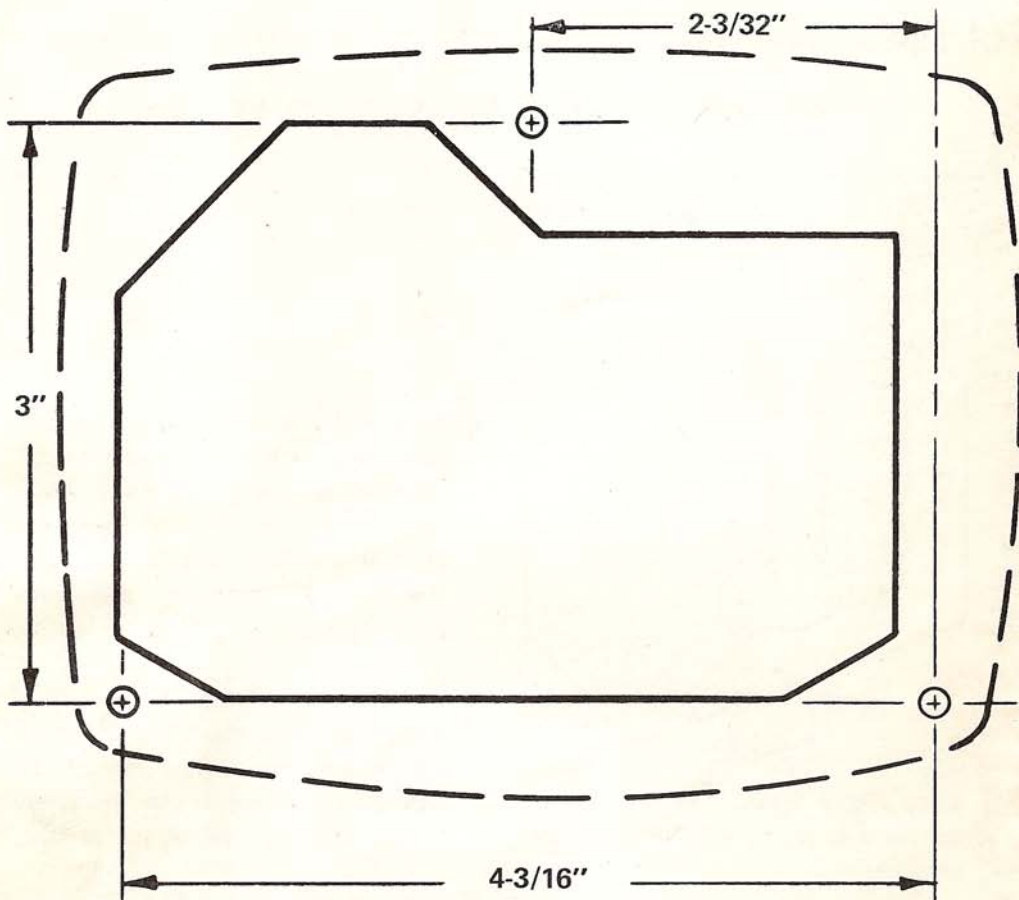

Figure 1
1. Using Figure 1 (see back) as a guide, cut panel to mount PD-324 indicator assembly.
1. Using Figure 1 (see back) as a guide, cut panel to mount PD-324P indicator assembly.